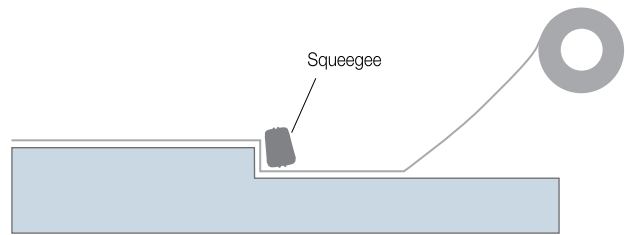

Figure 1 Tape instructions figure with squeegee
6. Follow the contours of the substrate. Do not pull the tape taught or try to flatten the contours out with the tape. Let the tape relax into and conform to the irregularities of the surface, then rub down (see Figures 1 and 2). When the tape has been applied with adequate pressure it should be seen to follow the contours of the insulation and the texture of the insulation facing should be visible through the tape.